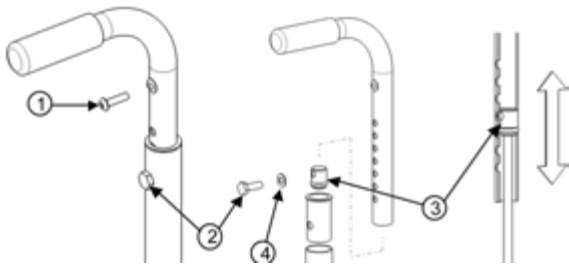

Fig. 15
- Loosen the screw (1) (Fig. 15) that holds the back upholstery.
- Pull backrest upholstery down several centimeters in order to access screw (2) that holds the push handle.
- Remove screw (2) and the backrest handle.
- To adjust the backrest height, with the help of a threaded rod ($\frac{1}{4}$ "-20), move the dowel nut (3), which is located inside the handle.
- Once this step is completed, use screw (2) to hold the dowel nut (3) while removing the threaded rod.
- Remove screw (2) and reinstall backrest handle.
- Align screw (2) with the mounting hole.
- Reinstall and tighten screw (2) and the washer.
- Reinstall the backrest upholstery with screw (1) and tighten to fit snugly.